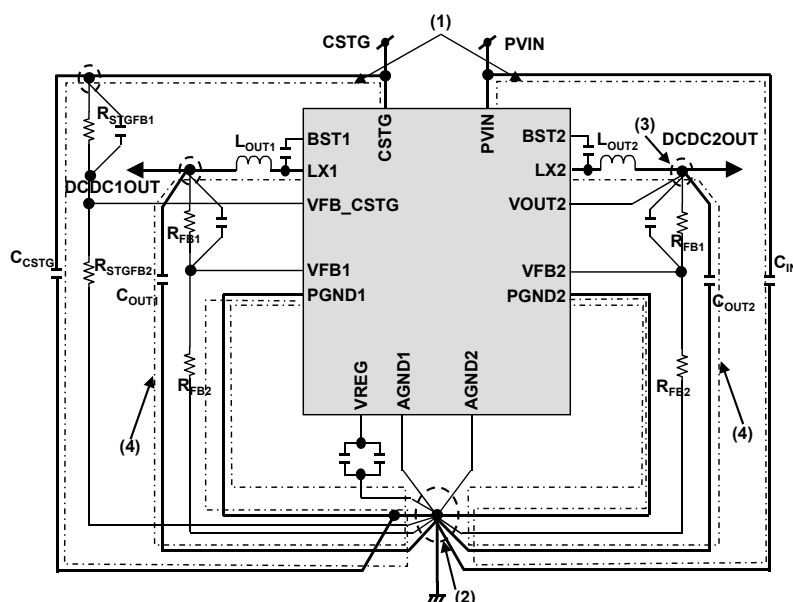

Figure A2-1 : Application circuit diagram
- (a) The Storage Capacitor C_{STG} of CH1 and Input capacitor C_{IN} of CH2 must be placed in such a way that the distance between CSTG and PGND1 of CH1 as well as PVIN and PGND2 of CH2 is minimum, in order to suppress the switching noise. Stray inductance and impedance should be reduced as indicated by loop (1) shown in the figure A2-1.
- (b) A single point ground connection (2) must be used to connect PGND and AGND to improve operation stability.
- (c) CH2 Output current line I_{OUT} and the output sense line VOUT2 must have small common impedance to reduce output load variations. Output sense line VOUT2 must be close to the output capacitor C_{OUT2} as indicated by (3) below.
- (d) Power Loss and output ripple voltage can be reduced by placing the inductor L_{OUT} and output capacitor C_{OUT} such that the stray inductance and the impedance of loop (4) is minimum. This is realized by :
- ii) Reducing distance for output capacitor Cout between single ground point connection (2) and output connection (3) as shown in Figure A2-1.